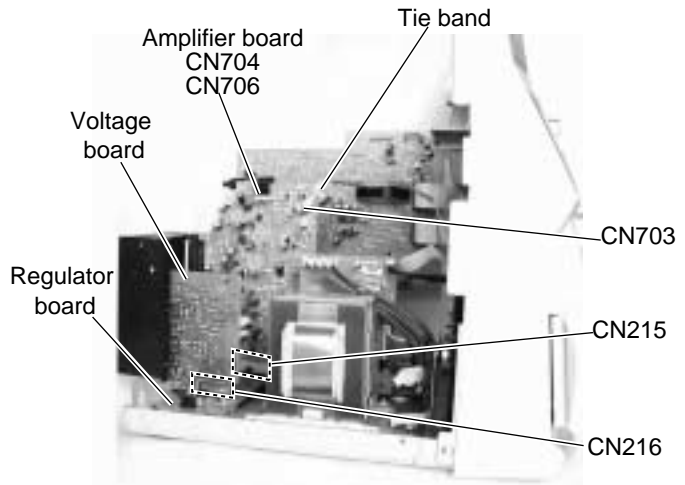

Fig.20
■ **Removing the amplifier board / voltage board / heat sink (See Fig.20 and 21)**